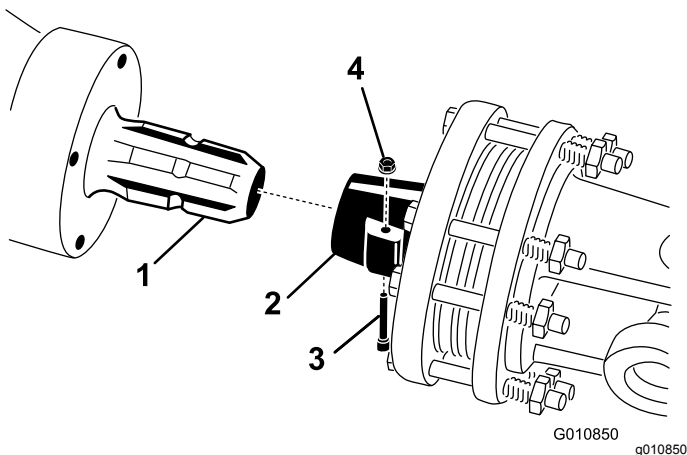

Figure 23
1. Remove the pin and nut from the PTO shaft (Figure 23).
2. Connect the clutch end of the PTO shaft to the aerator gearbox input shaft with pin and nut previously removed (Figure 23).